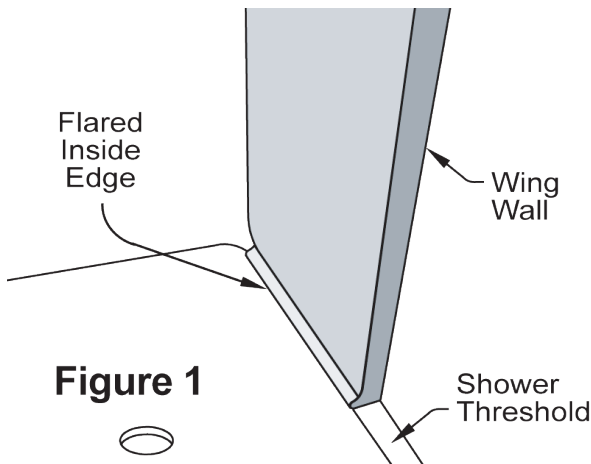

Figure 1
2. The wing wall panel will be field installed and will be secured to the studs at the front of the shower at the sidewall. The wing wall will rest on top of the threshold of the shower. There is a flared edge along the inside edge of the wing wall where it meets threshold of the shower. This flare helps to shed water into the shower. (See figure 1)